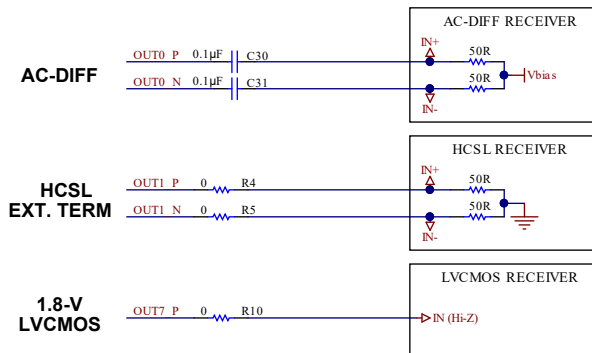

Figure 10-4. LMK05318B Reference Schematic Example
Figure 10-4 shows a reference schematic to help implement the LMK05318B and its peripheral circuitry. Power filtering examples are given for the core supply pins and independent output supply pins. Single-ended LVCMOS, AC-coupled differential, and HCSL clock interfacing examples are shown for the clock input and output pins. An external LVCMOS oscillator drives an AC-coupled voltage divider network as an example to interface the 3.3-V LVCMOS output to meet the input voltage swing specified for the XO input. The required external capacitors are placed close to the LMK05318B and are shown with the suggested values. External pullup and pulldown resistor options at the logic I/O pins set the default input states. The I²C or SPI pins and other logic I/O pins can be connected to a host device (not shown) to program and control the LMK05318B and monitor its status. This example assumes the device will start up from EEPROM mode with an I²C interface (HW_SW_CTRL = 0).
- For a 3.3-V LVCMOS driver, follow the OSC clock interface example in Figure 10-4. Power the OSC from a low-noise LDO regulator or optimize its power filtering to avoid supply noise-induced jitter on the XO clock.
- Reference inputs: Follow the LVCMOS or differential clock input interface examples in Figure 10-4 or in Section 9.3.3.
- Clock output Interfacing: Follow the single-ended or differential clock output interface examples in Figure 10-4 or in Section 9.3.14.
- Power all the VDD pins with proper supply decoupling and bypassing connect as shown in Figure 10-4.